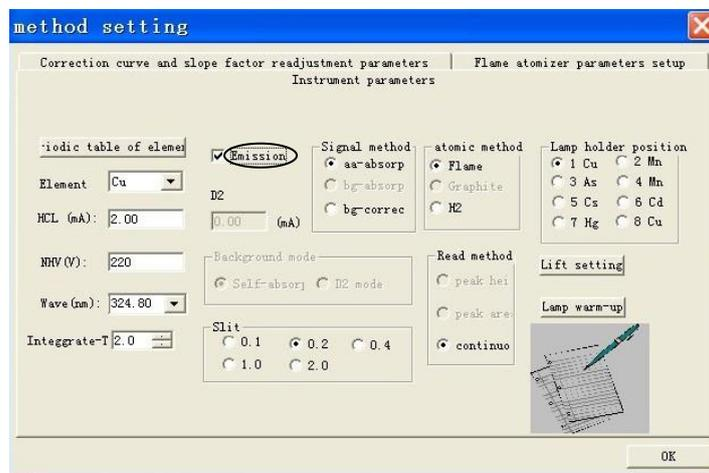
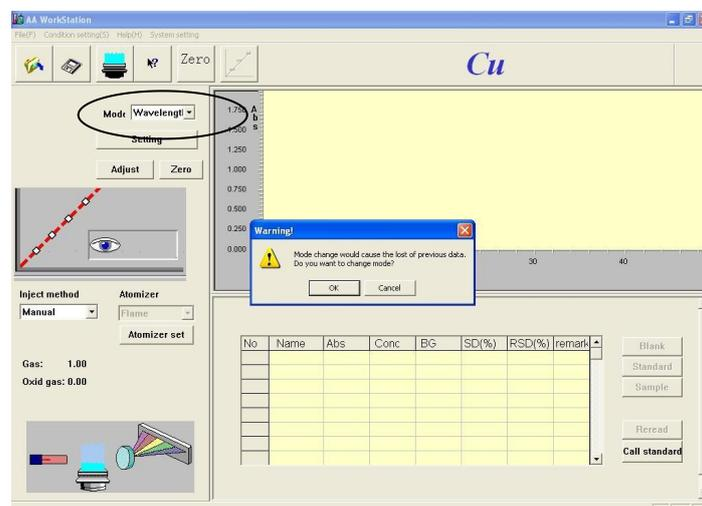
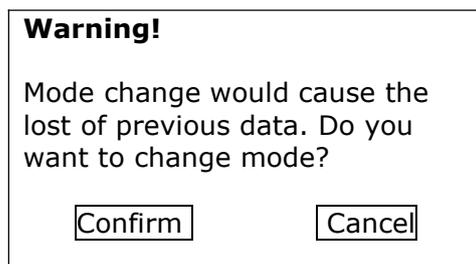
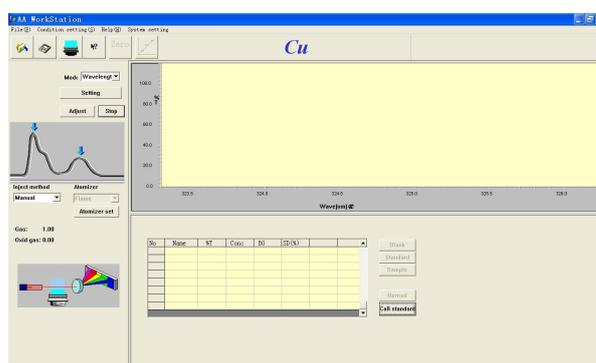

Figure 9-1a
Figure 9-1
Figure 9-2
Figure 9-3
2. After the light source correction is complete, press "More parameters" to show another dialog as shown in Figure 9-1a. Select "Emission", and press "OK" to close the dialog. The screen will appear as shown in Figure 9-1. Select "Wavelength scanning" in the "Mode" pull-down list.
- As shown in Figure 9-1, select "Wavelength scanning" in the "Mode" pull-down list, and a dialog will appear as shown in Figure 9-2.
- In the dialog as shown in Figure 9-2, press "OK" to select the wavelength scanning mode. The screen will appear as shown in Figure 9-3.